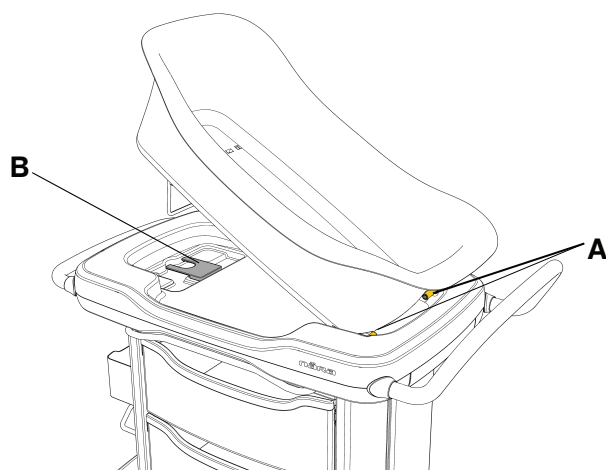

Figure 2 – Attach and latch the basket onto the base cabinet
1. Tilt the basket to align the notches on the bottom of the basket to the two retention pins on the base cabinet (A) (Figure 2).
3. Slide the tilt bar under the metal bracket until the bar is secure (B) (Figure 2).